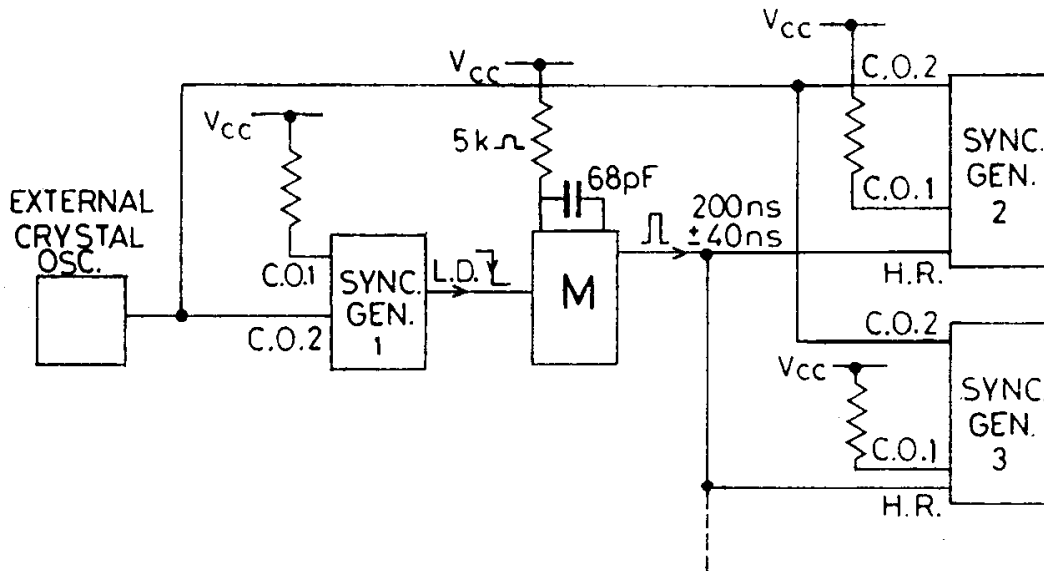

Fig. 3 Line Synchronisation using Horizontal Reset
*Line synchronisation* (Fig. 3) is achieved by using a narrow positive going pulse derived from the negative going edge of the Line Drive output of the first generator to drive the Horizontal Reset inputs of the other generators. This monostable pulse, which should have a width of  $200 \text{ ns} \pm 40 \text{ ns}$ , resets the generators to the start of a line ( $t = 0$ ). This results in the Line Drive waveforms of the driven generators being one reference clock period ( $\approx 800 \text{ ns}$ ) delayed from the first generator. The C.O.2 pins of the generators must be connected together.